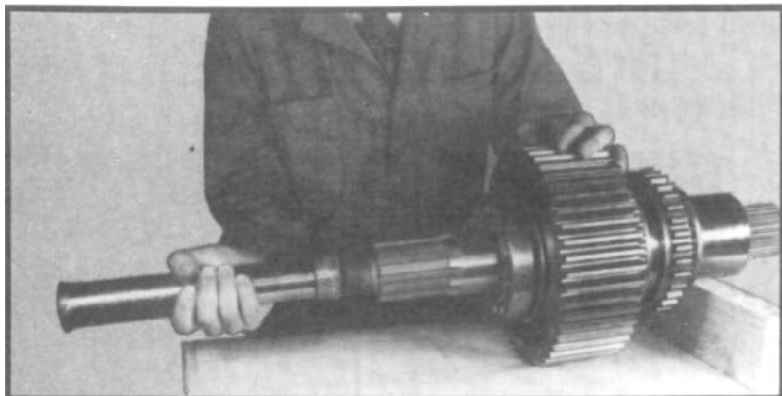

Fig. 38
1.12 Disassemble the shaft assembly by placing the front of the shaft on a block of wood for support. Tap with a soft hammer on the rear of the shaft, pushing the shaft through the direct drive gear and pushing the rear bearing and thrust washer from the shaft. (See fig. 38.)